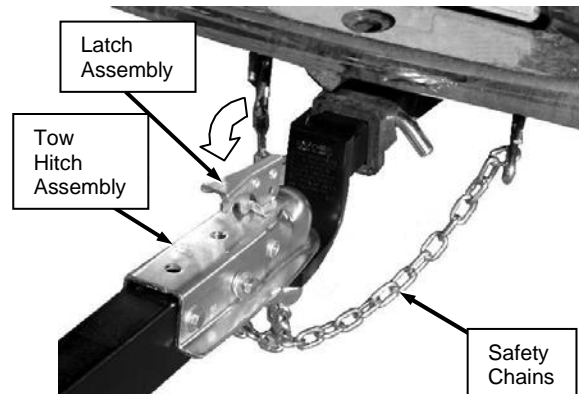

Figure 31
4. Close the Latch Assembly on the Tow Hitch Assembly to lock it onto the Tow Ball (**Figure 31**). Attach the towing Safety Chains to the tow vehicle ensuring there is enough slack for turning.